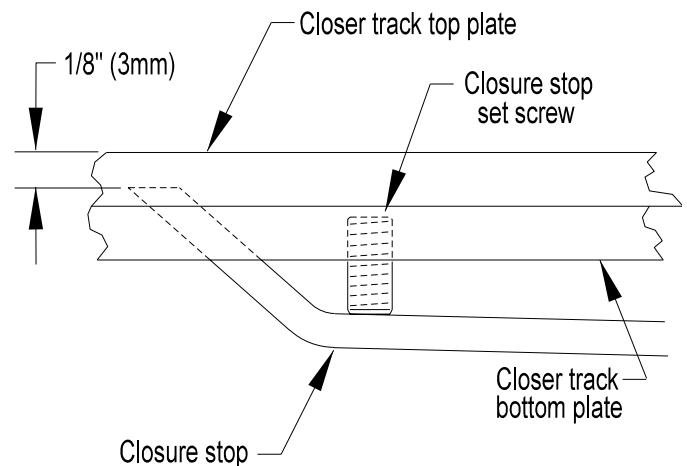

Figure 3.6
3. Turn the set screw in or out to lower or raise the tip of the stop until it is 1/8" (3mm) below the top of the track top plate (Figure 3.6).